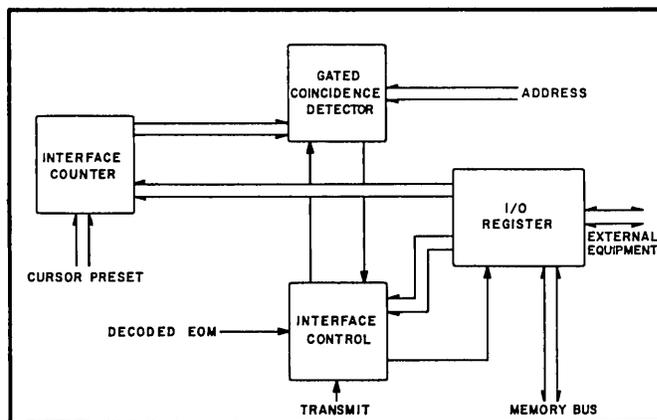

Figure 3-5. Interface Circuits.
3.6 BASIC INTERFACE (See Figure 3-5)